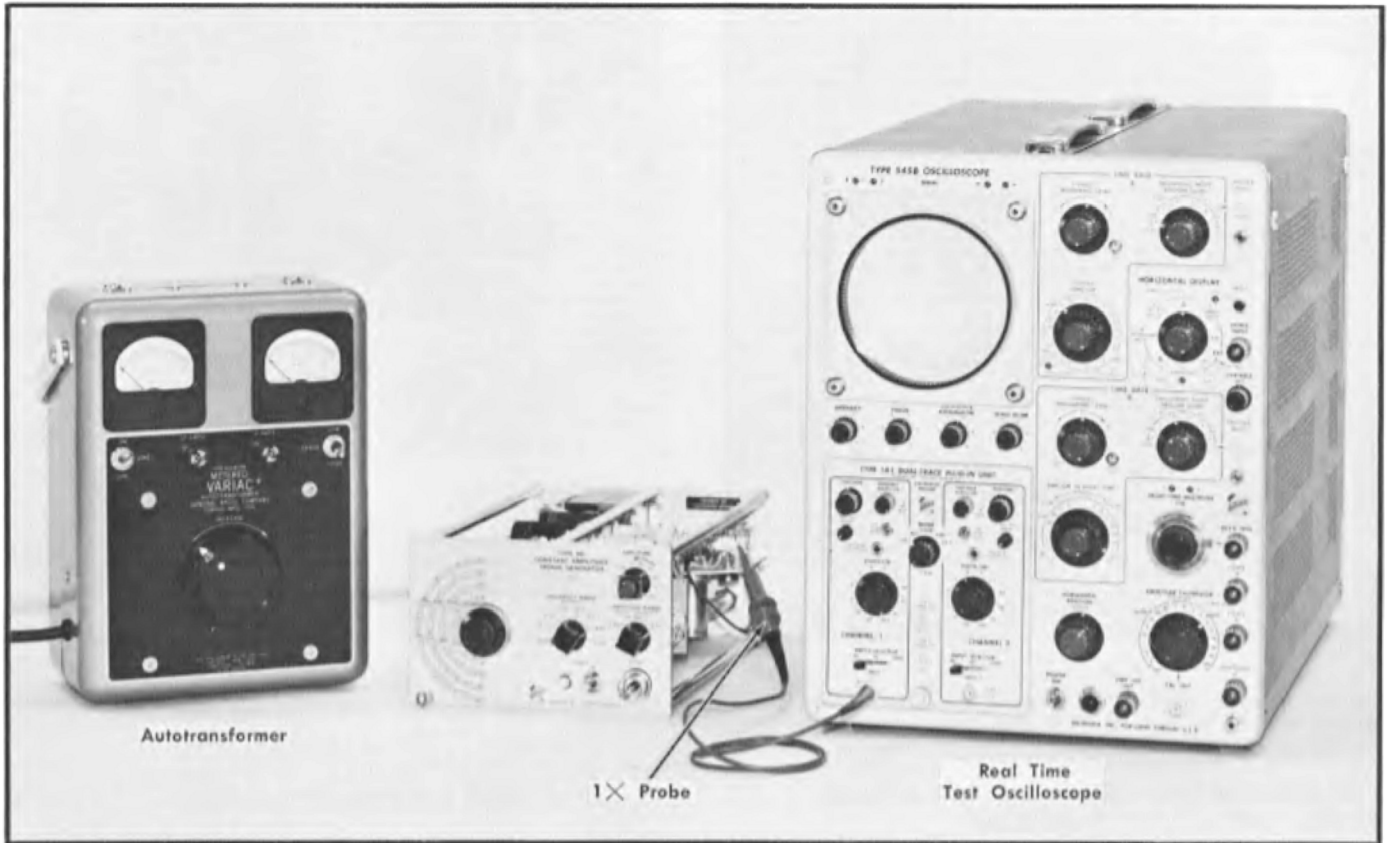

Fig. 6-6. Test equipment setup for step 4.
- a. Test equipment setup is shown in Fig. 6-6.